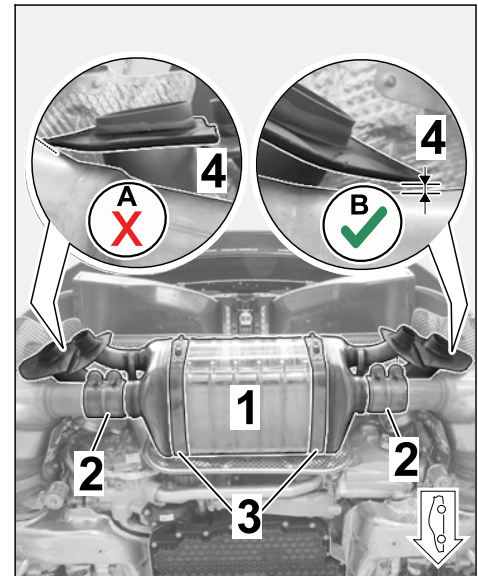

Figure 7
2.4.5 Position new muffler for sport exhaust system on the muffler holder and pre-fit hand-tight with new restraining straps (2 ea.) (⇒ Figure 7).
2.4.6 Check whether the protective plate is touching the catalytic converter (⇒ Figure 7-insets-).
- If it is (⇒ Figure 7-A-): Correct the position of the muffler or bend the cover away if necessary so that there is a gap of at least 3–5 mm (⇒ Figure 7-B-) between the plate and catalytic converter!
- If not (⇒ Figure 7-B-): Continue with the next step.